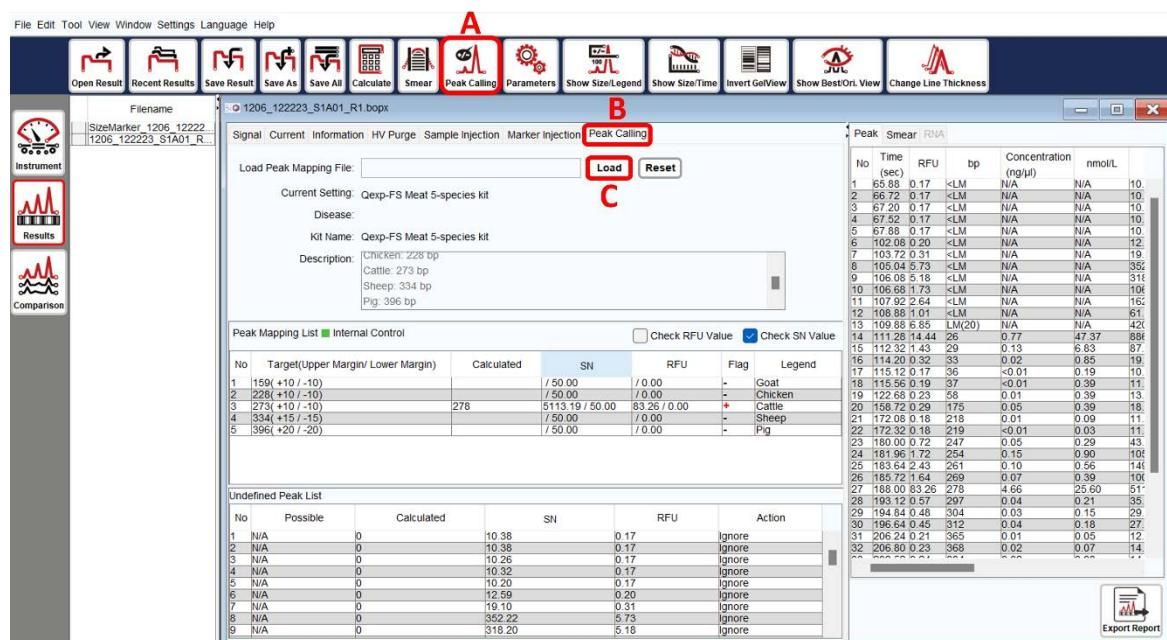

Figure 51 Fragment Size Calculation and Peak Calling Selection
4. Return to the result files, calculate the fragment size, and select the **Peak calling** tab or click **Tool → Peak Calling** (Figure 51 A-B).
5. Browse and load the desired Peak Calling Table file (Figure 51 C).